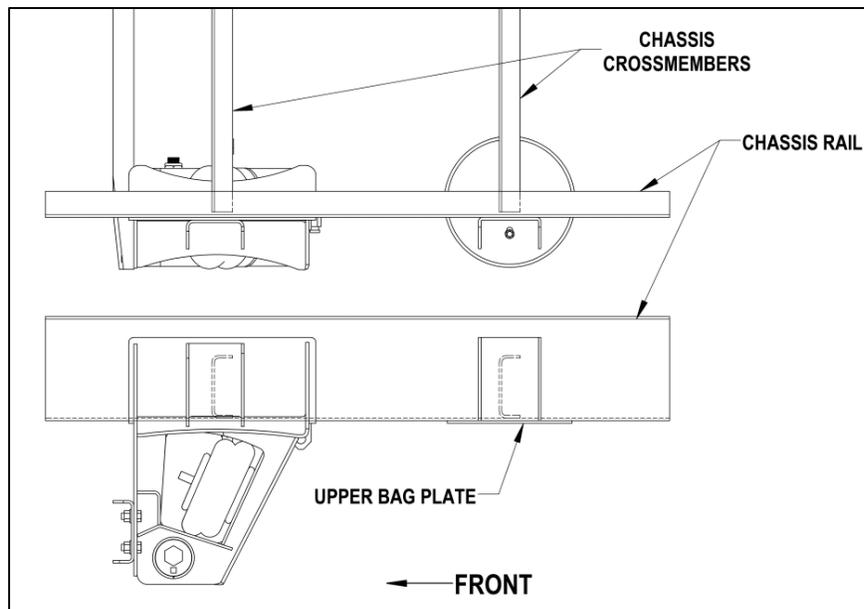

Figure 6
6. Review the suggested cross member locations (See **Figure 6**), and verify with the vehicle manufacturer that the chassis and cross members are capable of supporting the auxiliary axle suspension system.